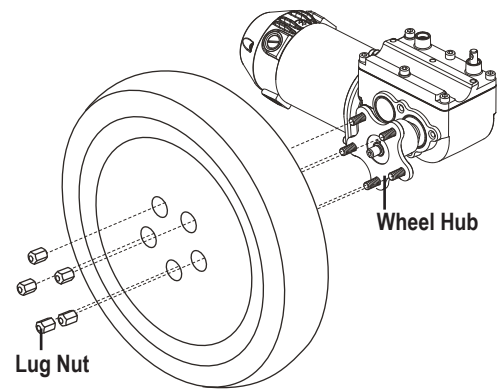

Figure 23. Drive Wheel
4. Remove the five (5) lug nuts from the wheel hub. **See figure 23.**